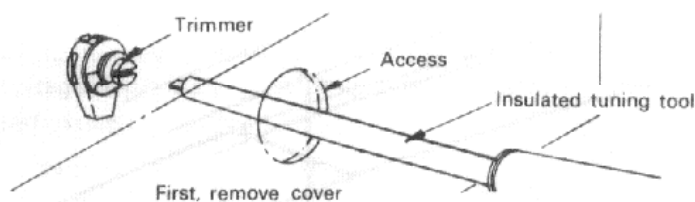

Fig. 4-14 Digital Display Calibration
4.10 DIGITAL DISPLAY CALIBRATION (Fig. 4-14)